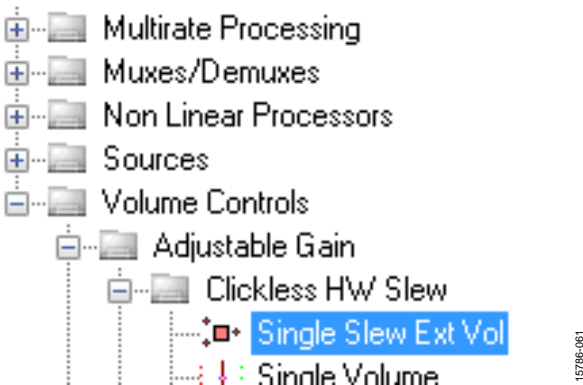

Figure 60. Single Slew Ext Vol Block Selection
- a. From the **Volume Controls > Adjustable Gain > Clickless HW Slew** folder, click **Single Slew Ext Vol** (see Figure 60), and drag it into the project space to the right of the toolbox.